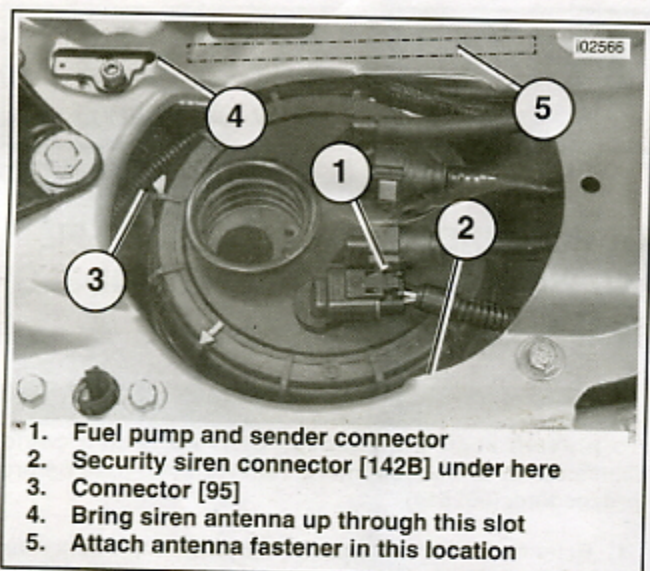

Figure 3. Locate Connector [142B] (VRSC Models) (Fuel Cap and Filler Boot Removed)
5. See Figure 3. Locate the security siren connector (2), at the end of the harness that wraps around the top of the fuel tank. This is a 3-wire connector, not to be confused with the 2-wire connector (3) tied to the harness (except California models). Disconnect the fuel pump and sender connector (1) to free the security siren connector. The protective cap and wire tie on the security siren connector can be discarded.
See Figure 3. Feed the siren antenna wire up through the slot (4) in the frame